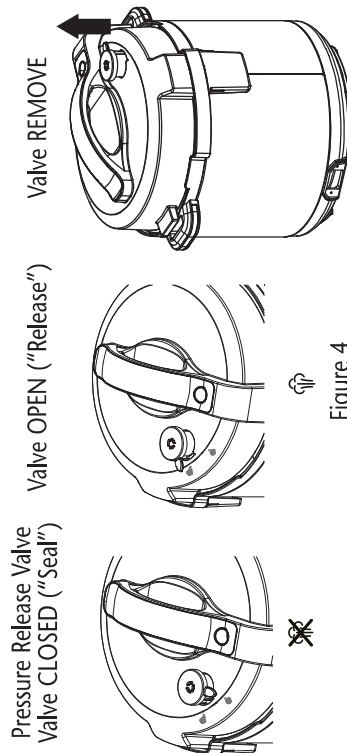

Figure 4
- A. Natural Pressure Release Method:** After cooking cycle is complete, let Multi-Cooker naturally release pressure through the Bobber Valve. Unit will gradually cool down on its own. Wait at least 10 minutes after cooking has completed, and then, using a kitchen utensil, flick the tab on the Steam Release Valve to the "Release" position (see Figure 4). Do not place any part of your hand or body over the steam outlet on top of the valve, as steam is very hot and can scald skin. The pressure has been released when steam is no longer escaping from the valve and the Lid opens freely with minimal force. Only then is it safe to remove the Lid and serve food.
- B. Quick Pressure Release Method:** Using a kitchen utensil, flick the tab on the Steam Release Valve to the "Release" setting (see Figure 4). Steam will release rapidly from the Steam Release Valve. Do not place any part of your hand or body over the steam outlet on the top of the valve, as steam is very hot and can scald skin. **Never use this method when cooking liquid ingredients such as casseroles, stocks and soups. Never use this method when cooking rice, as rice tends to be very delicate.** The pressure has been released when steam is no longer escaping from the valve and the Lid opens freely with minimal force. Only then is it safe to remove the Lid and serve food.